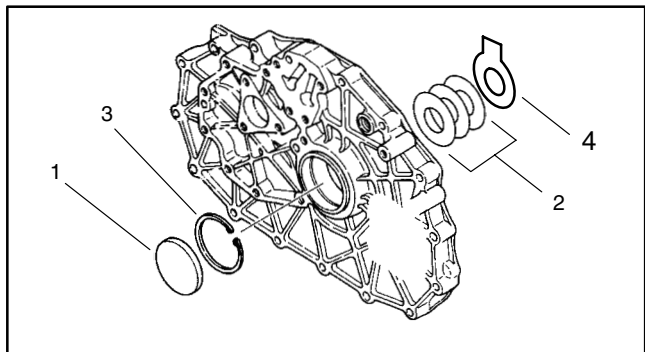

Figure 60
8. Inspect both snap ring (item 3) and shim(s) (items 2 and 4) for damage. Replace all parts if any part is cracked or broken (Fig. 60).